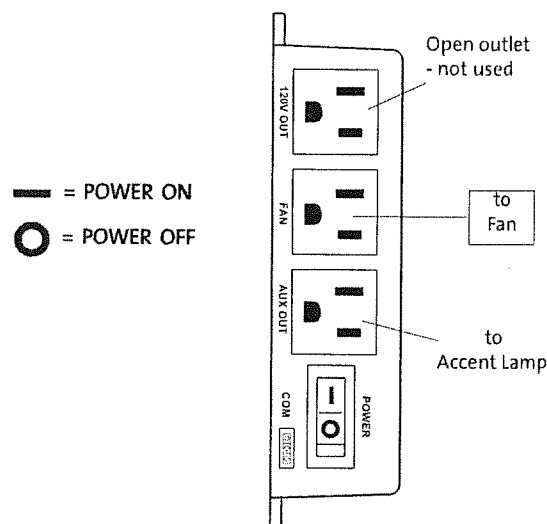

Figure 50. Fan Control Module power switch.
1. Turn the **Fan Control Module rocker switch** to the **ON position**, fig. 50. It is located in the right side compartment, under the Accent Lamp control.